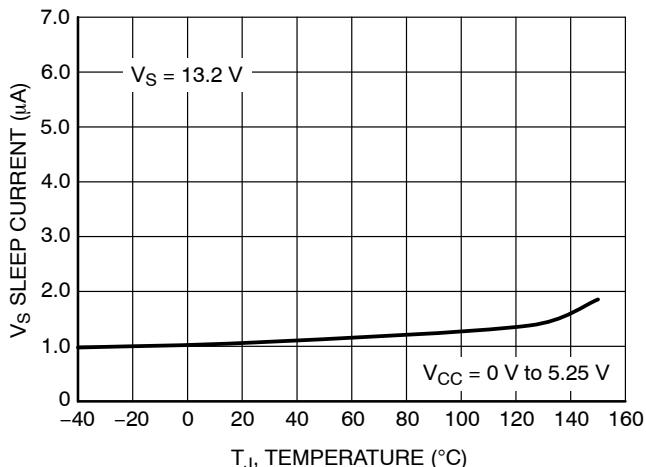

Figure 6. VS Sleep Supply Current vs. Temperature
5. For temperatures above 85°C, refer to Figure 6.
5. For temperatures above  $85^{\circ}\text{C}$ , refer to Figure 6.